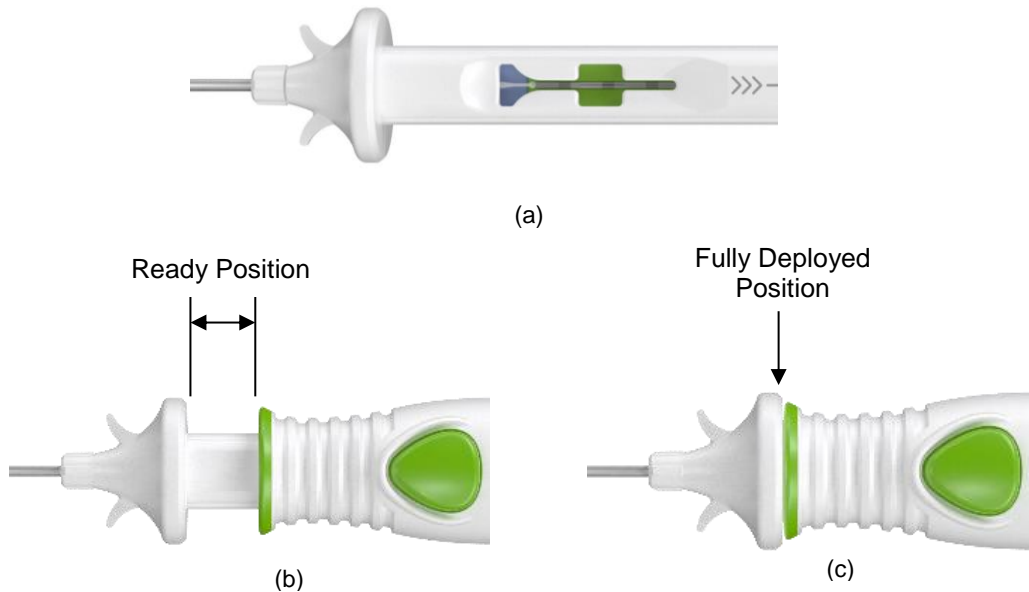

Figure 6: Images showing (a) Proper Cannula advancement and Implant Loading, (b) Delivery Device Ready Position, (c) Delivery Device Deployed Position
- Slowly advance the outer handle until the outer handle locks into the ready position to advance the Implant into the delivery cannula. While advancing, watch the implant load into cannula inner lumen. This positions the Implant at the tip of the cannula in the ready position. Proper implant loading and handle positioning is shown in Figure 6 below.